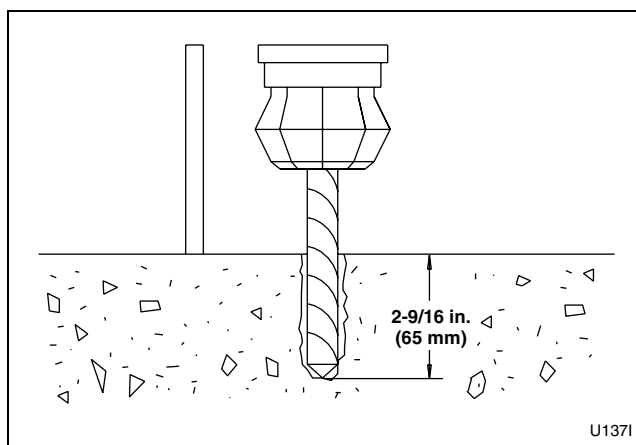

Figure 11
5. Drill the holes to the set depth. Refer to *Figure 11*.